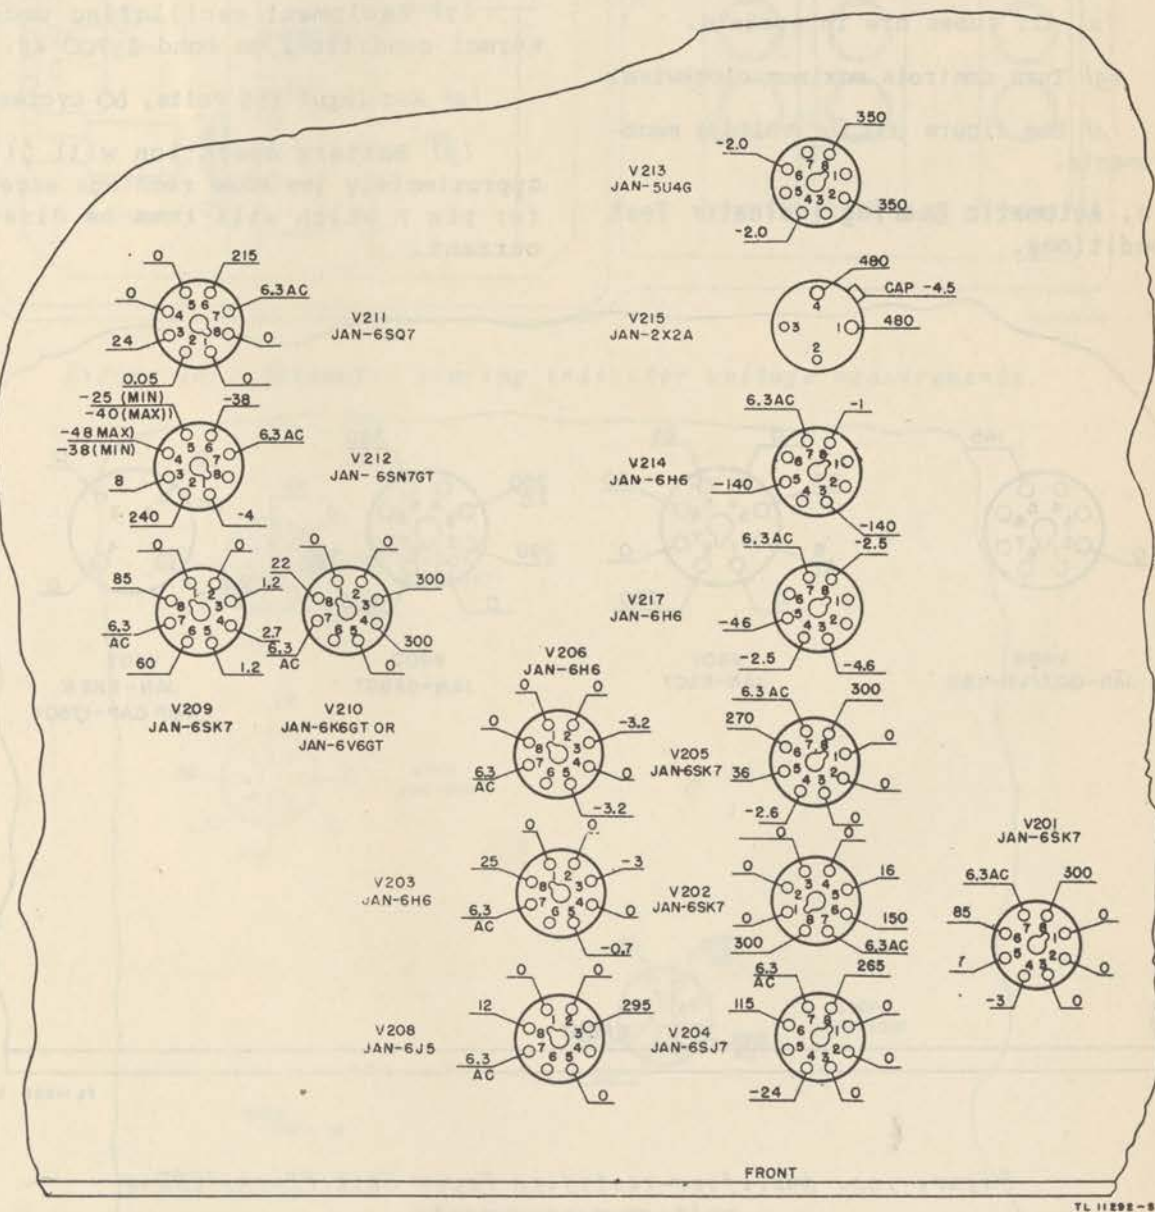

Figure 99. Power indicator voltage measurements.
- (8) Turn blanking switch S204 on.
- (9) Adjust blanking control R272 for tube V212 readings.
- (10) See figure 99 for voltage measurements.